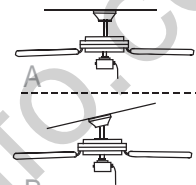

Fig. 2
2. Determine mounting method to use. [Fig. 2]